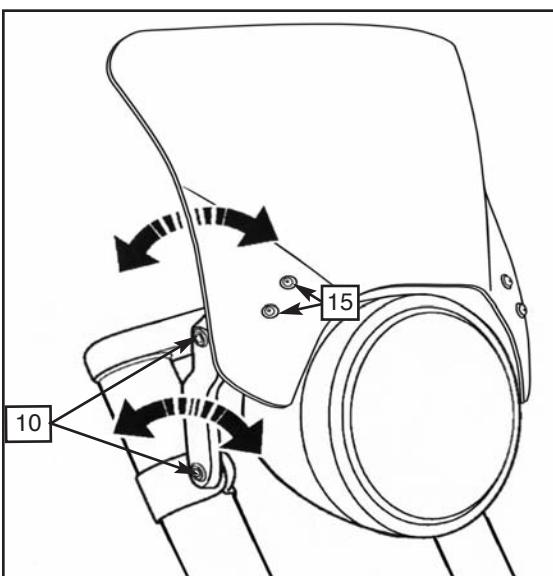

Figure 7
- 14. Adjust the Windshield to the desired position and securely tighten the 4 Screws (10). **(6mm Hex Wrench) Figure 7**
- 15. Securely tighten the 4 Screws (15) and Nuts (16) in the Windshield Brackets **(4mm Hex Wrench and 10mm Socket) Figure 7**